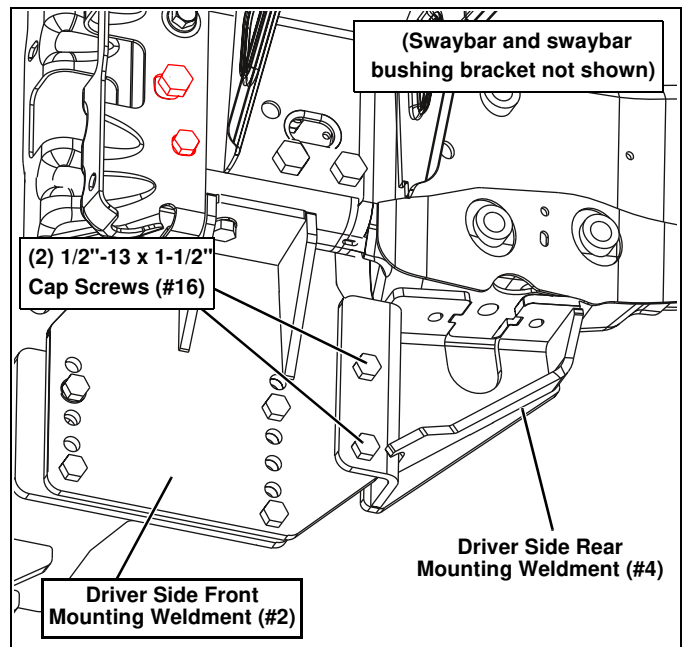

Figure 9
13. Slip the Rear Mounting Weldments, DS (#4) and PS (#5) over the swaybar and swaybar bushing bracket. (See Figure 9.)
14. Assemble the Rear Mounting Weldments onto the Front Mounting Weldments (#2 and #3). Then secure each side using (2) 1/2"-13 x 1-1/2" Cap Screws (#16), and (2) 1/2"-13 Locknuts (#13). (See Figure 9.)